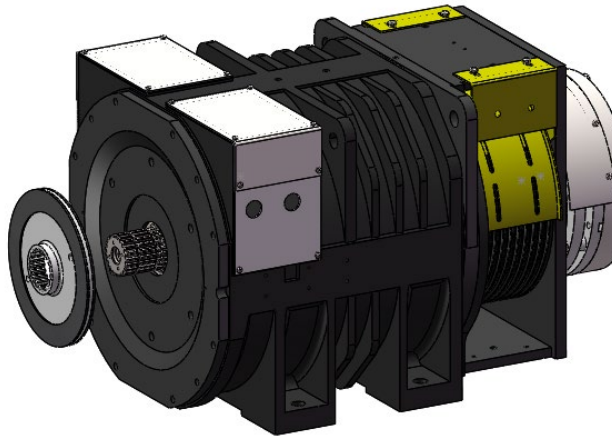

Figure 52 Install Friction lining B
3. Install the new friction lining. It is OK to apply a little force using rubber hammer to press it in and move it forward through the spline (Be careful not to damage the O-rings.); make sure the friction lining moves easily. See Figure 52.